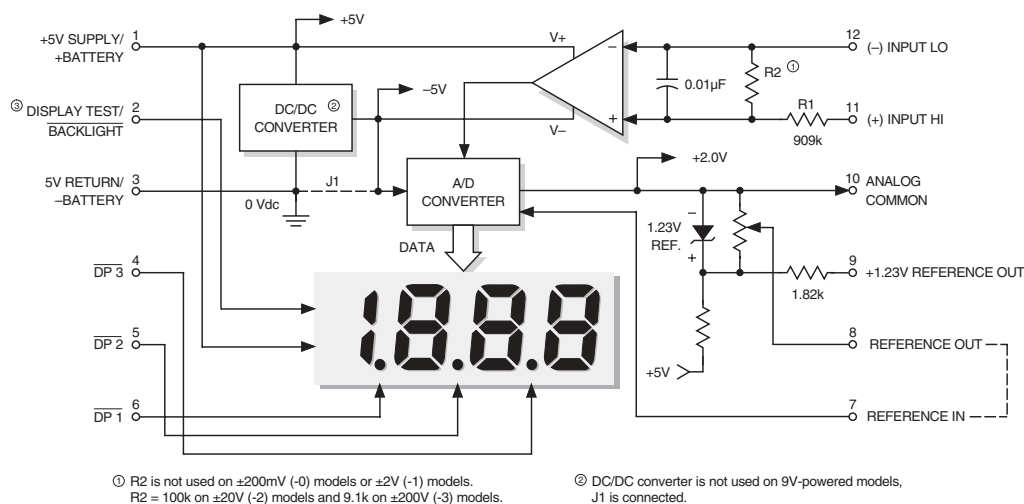

Figure 1. DMS-30LCD Series Simplified Schematic
① Applies for transient or continuous overvoltages applied to (+) INPUT HI (pin 11) with (–) INPUT LO (pin 12) properly connected. Pin 12 is not overvoltage protected (see Figure 1). Voltages applied to pin 12 should not exceed the supply voltage.
② Listed spec applies to 5V-powered models only. For 9V-powered models, both (–) INPUT LO (pin 12) and (+) INPUT HIGH (pin 11) must always be at least 1.5V above –BATTERY (pin 3) and at least 1.5V below +BATTERY (pin 1).
③ See Technical Notes.